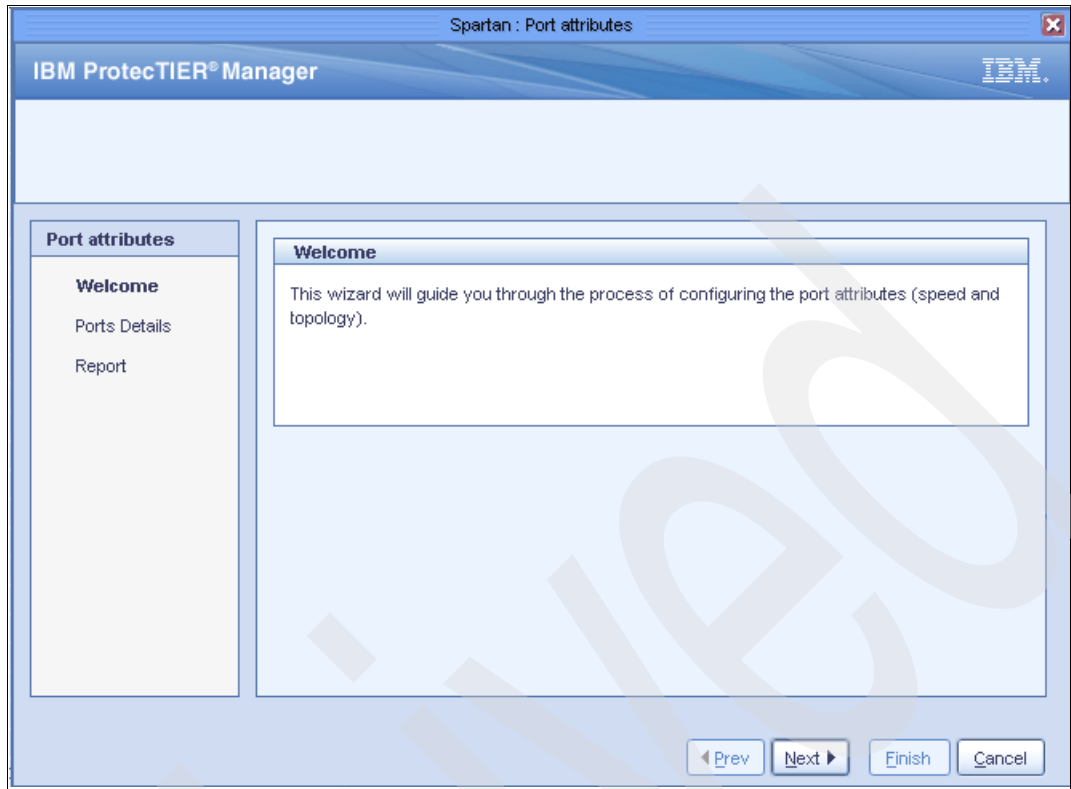

Figure 6-43 PT Manager_Port attribute wizard
- b. A Port Attributes wizard window appears. See Figure 6-43 on page 128.